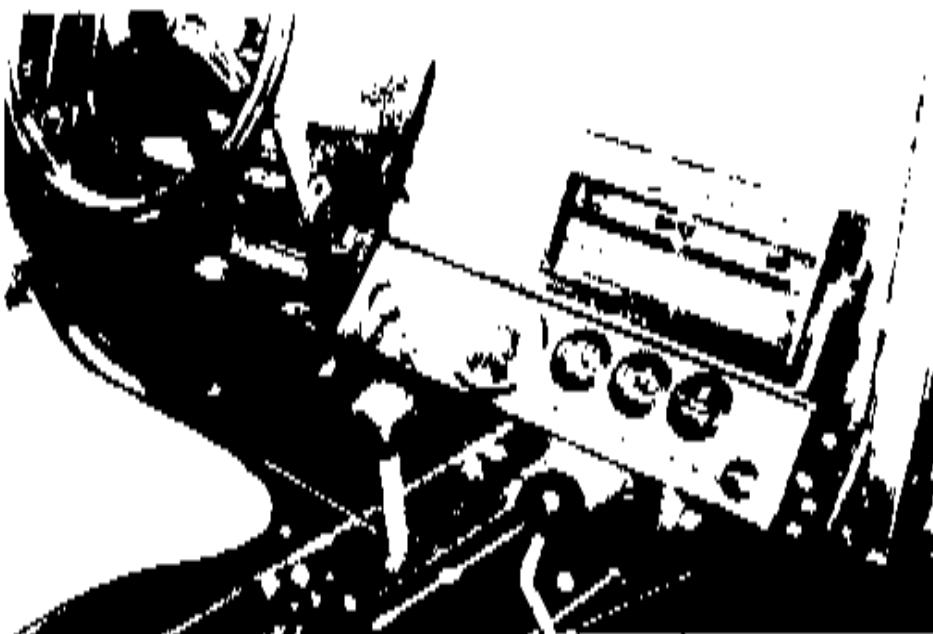

Figure 1
2. Position hydrostatic control lever in N (neutral) position. See Figure 1